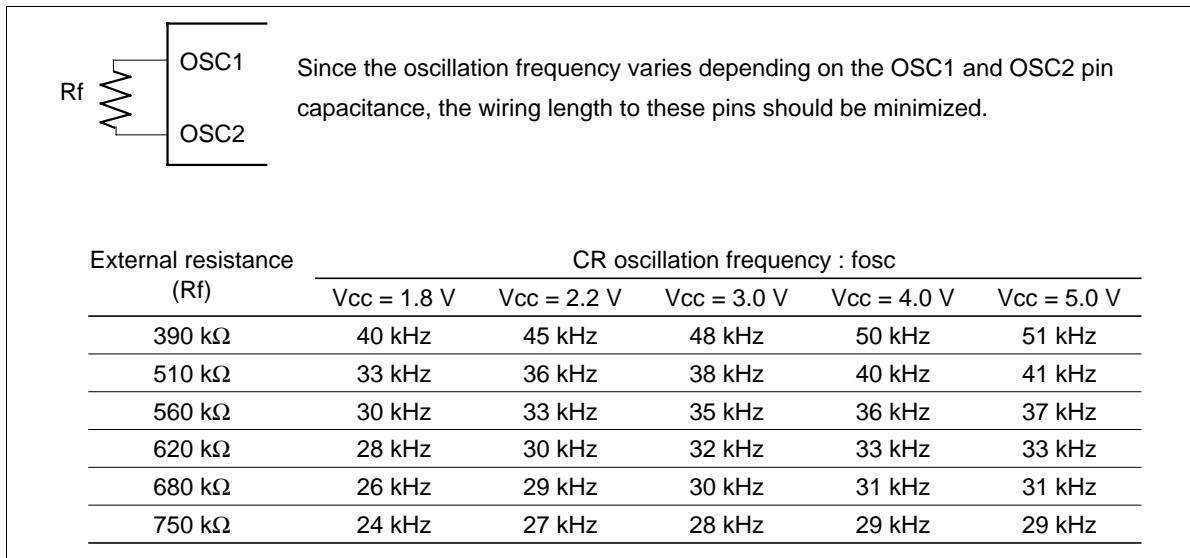

Figure 62 Internal Oscillation
14. Applies to the internal oscillator operations using oscillation resistor R_f (figure 62).